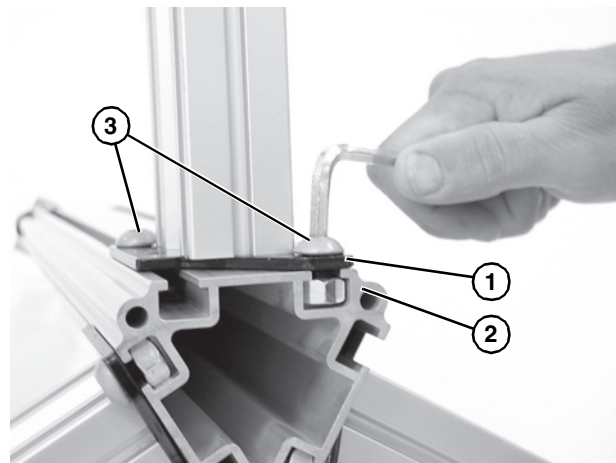

Figure 6
- Align bottom edge of the end plate (Figure 6, item 1) with bottom edge of the trileg post (Figure 6, item 2).
Failure to secure screws (Figure 6, item 3) may cause conveyor sections to drop down, causing severe injury.
TIGHTEN ALL SCREWS (Figure 6, item 3) AFTER ADJUSTMENT.
- Tighten button screws (Figure 6, item 3) to 100 in-lb (11 N-m).